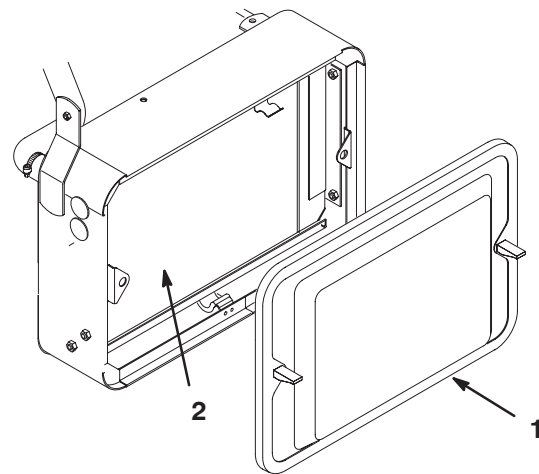

Figure 46
1. Remove the radiator screen (Fig. 46).